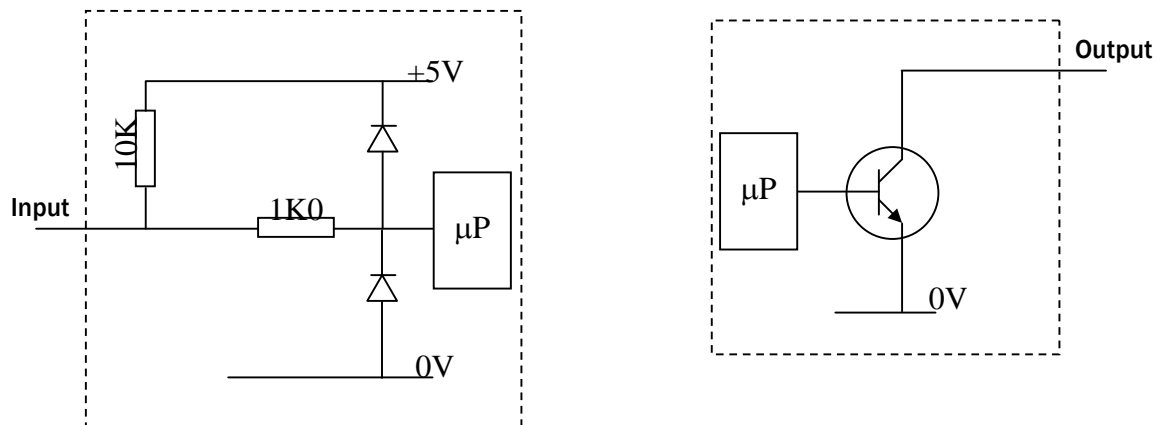

Figure 4 - Input and Output Circuits
**CAUTION: THE OUTPUT LOW SIGNAL IS AFFECTED BY THE VALUE OF THE PULL UP RESISTOR ON THE HOST MACHINE INTERFACE. ENSURE YOUR SIGNAL LOW LEVELS COMPLY WITH THE 74HC CMOS SERIES SPECIFICATION FOR RELIABLE OPERATION (SEE FIGURE 4).**